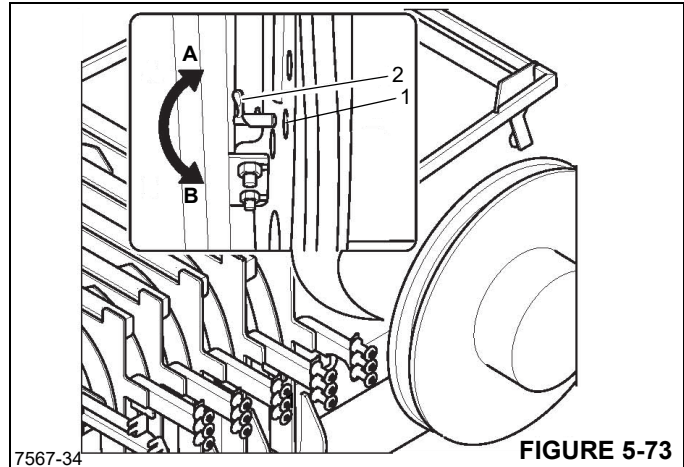

FIGURE 5-73
Holes (1, Figure 5-73) are distributed on the inner wheel of the hose drum. Rotating the latch (2) engages one of the holes to lock the drum, preventing it from turning.
Rotate the latch (2, Figure 5-73) clockwise (A), to disengage it from the hole.
1. Turn the hose drum until a hole is aligned with the latch (2, Figure 5-73).
2. Rotate the latch (2) counterclockwise to position (B), until the latch fully engages the hole.